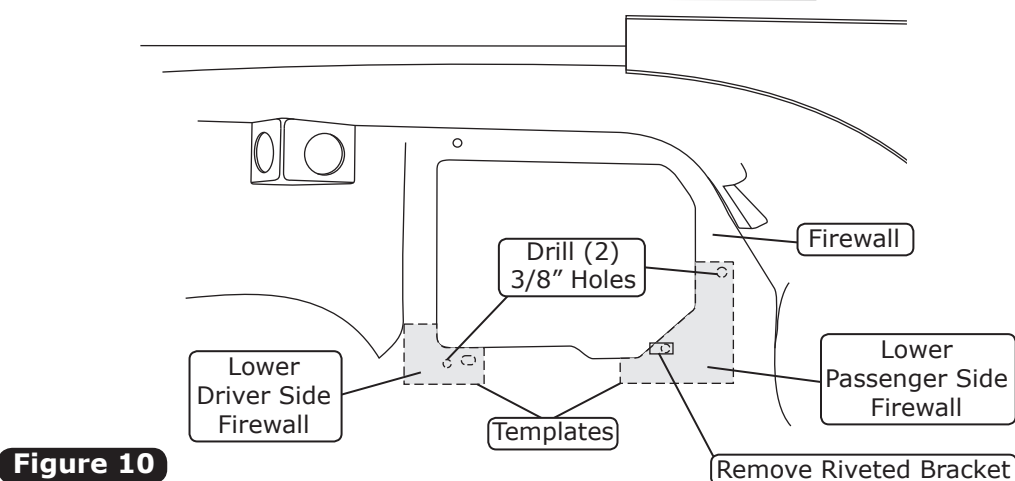

Figure 10
1. Cut out the templates provided on Page 30. Working in the passenger compartment, place the templates on the firewall as shown in Figure 10, below.
2. Once templates are aligned correctly and taped into place, mark the mounting hole locations on the firewall. Once the holes are marked in the correct location, drill (2) $\frac{3}{8}$ " holes in the firewall for the firewall cover (See Figure 10, below).